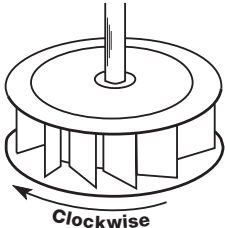

Figure 2
5. Check wheel rotation by momentarily energizing the unit. Rotation should be clockwise as shown in Figure 2 and correspond to the rotation decal on the unit. Rotation is determined when the unit is viewed from the motor or shaft pulley side.